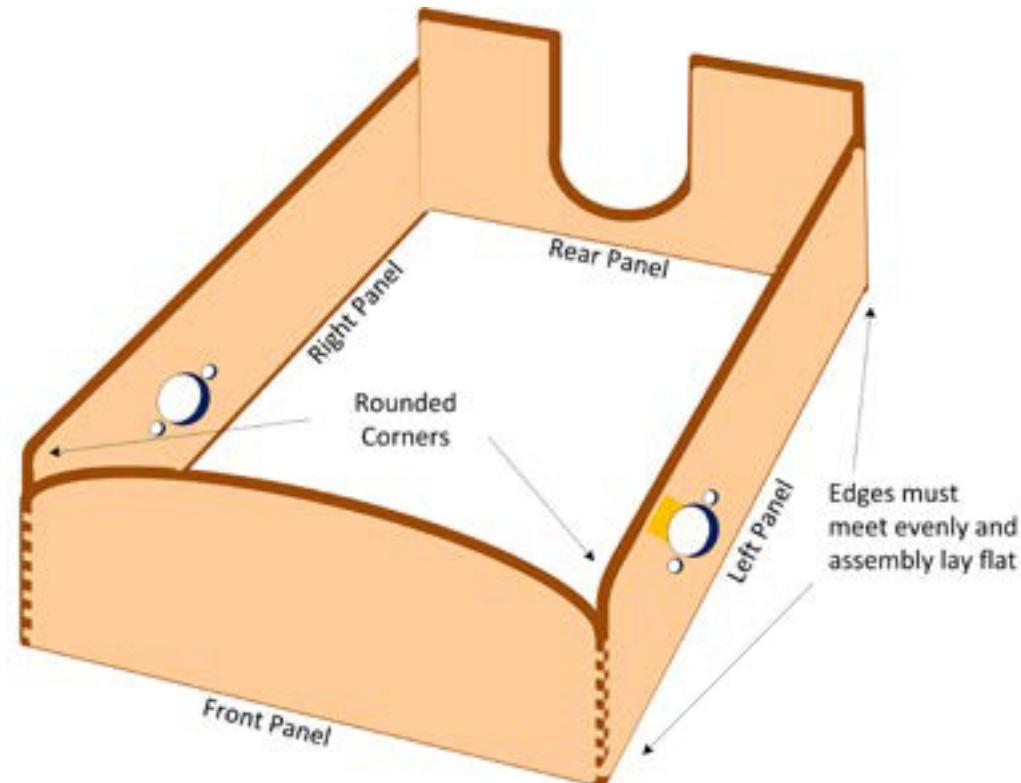

Figure HT1-1. Front, rear, and side panels of robot chassis
1. Glue the front and rear panels to the side panels as shown in Figure HT1-1.
In Figure HT1-1 the panels are all upside down. It's important to ensure that: